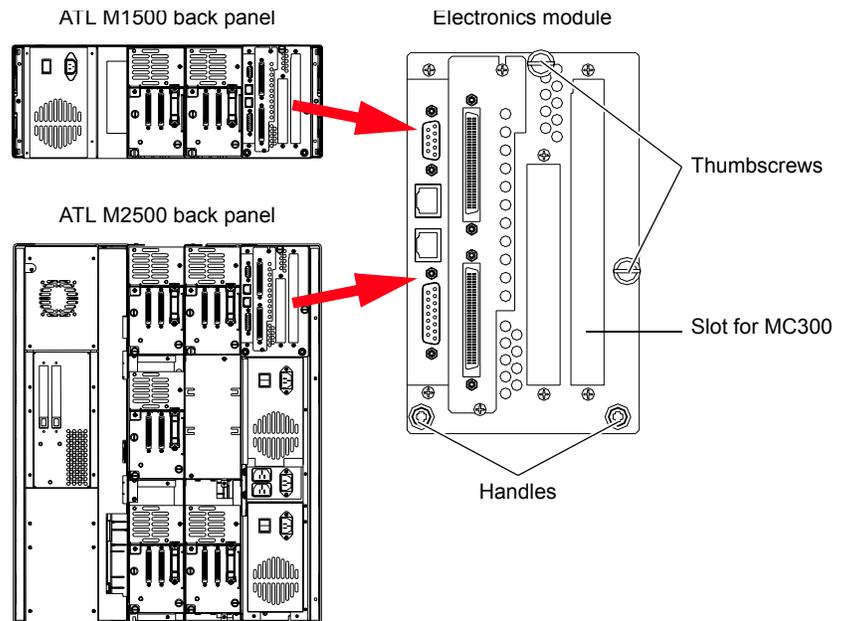

Figure 1 Removing the Electronics Module
- 3 Using a flat blade screwdriver, loosen the two large thumbscrews securing the electronics module to the back of the library (see figure 1).